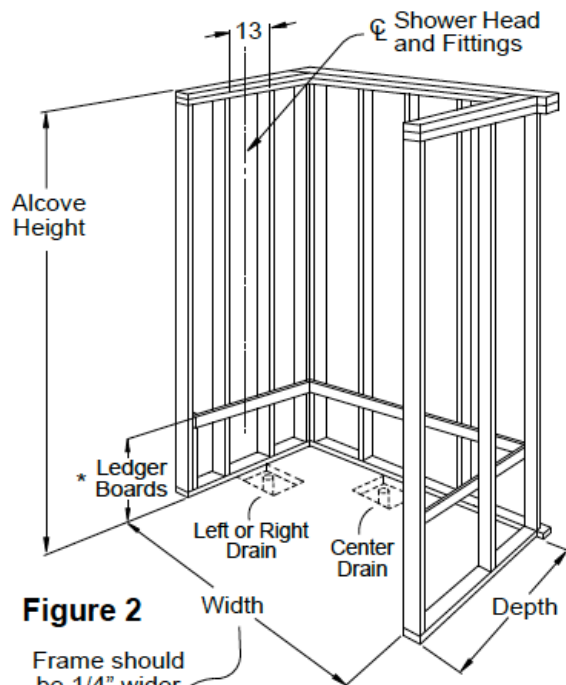

Figure 2
2. Review Figure 2 for framing recommendations. If a fire rated alcove is required, approved finish material must be installed prior to unit installation. Access to drain and supply connections should be provided so that these connections may be made after the unit has been installed. Framing alcove must reflect exterior dimensions of bathtub to permit installation of unit. Note in diagram the required opening in the floor to provide clearance for the drain trap and fitting connection.